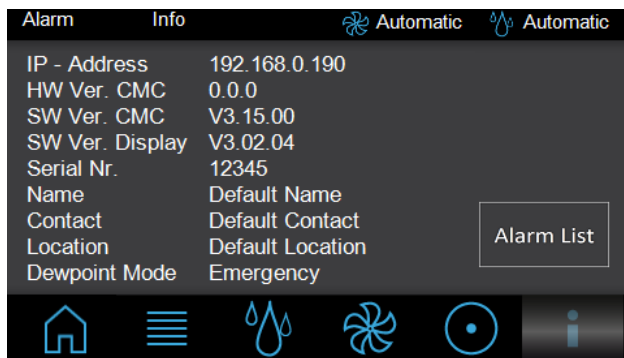

Fig. 112: "Info" screen
- Enter the serial number using the number pad keys. The serial number is displayed on the "Info" screen (fig. 112) under the "Serial No." entry.